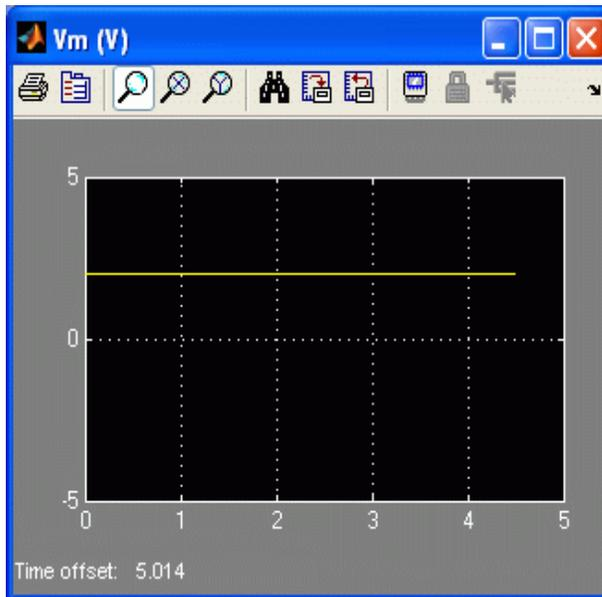

Figure 6: Constant input motor voltage.
- Set the *Amplitude (V)* slider gain to 0.0 V.
4. Set the *Offset (V)* block to 2.0 V.
5. Open the load shaft speed scope, w_l (rad/s), and the motor input voltage scope, V_m (V).
7. Select QuaRC | Start to begin running the controller. The SRV02 unit should begin rotating in one constant direction. The scopes should be reading something similar to as shown in figures 6 and 7. Note that in the w_l (rad/s) scope, the yellow trace is the measured speed while the purple trace is the simulated speed (generated by the *SRV02 Model* block).